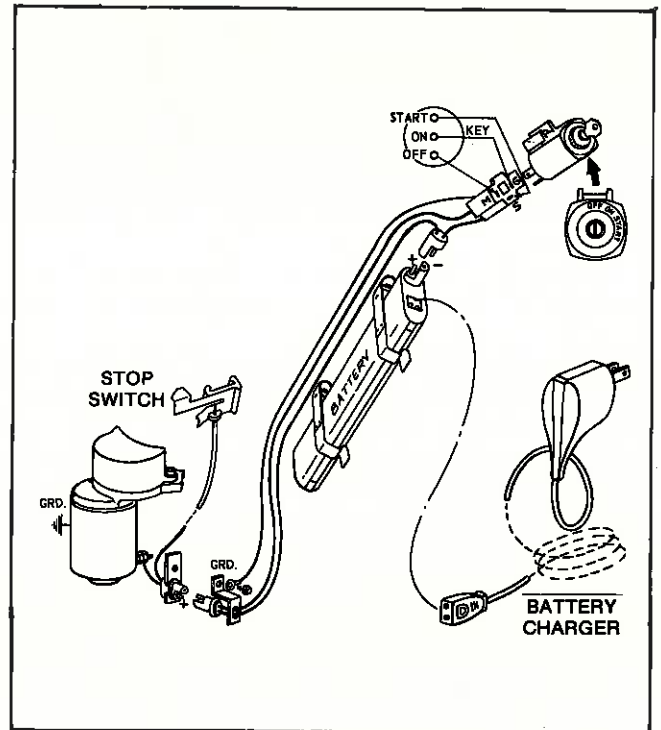

Fig. 49 — Wiring Diagram
- D. Poor electrical connection (wiring harness). See Fig. 49.
- B. Faulty wiring harness (open circuit). See Fig. 49.